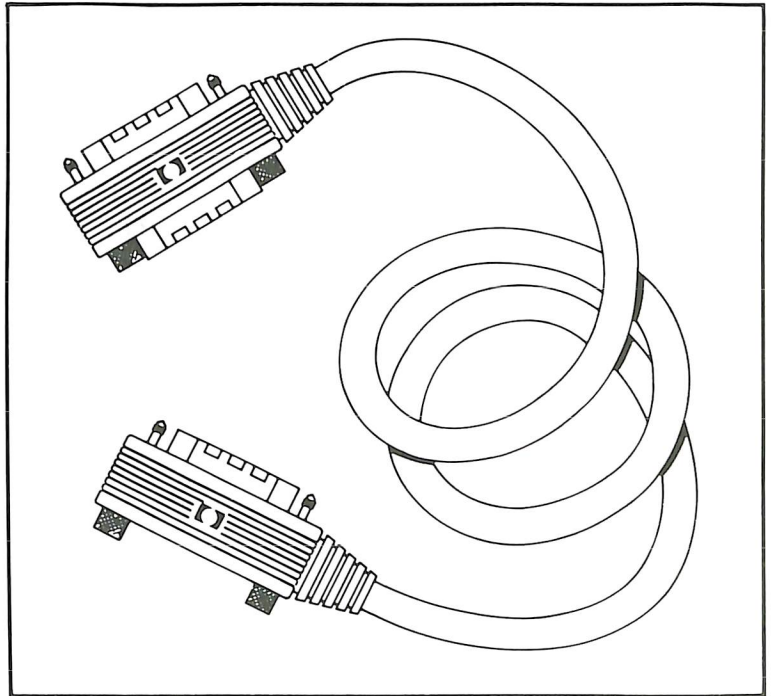

Figure B-5. HP-IB Cable
- a. Look at the cable hooked up to your printer. If it is an HP-IB cable (pictured in Figure B-5), touch the **HP-IB DEVICE** function label (15) until the asterisk (*) appears.